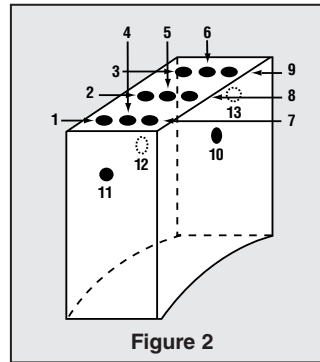

Figure 2
**Spring Ring Brushes** (Figure 2) the narrow face is to be held toward the observer. The number is to begin at the left hand side of top face nearest the observer.